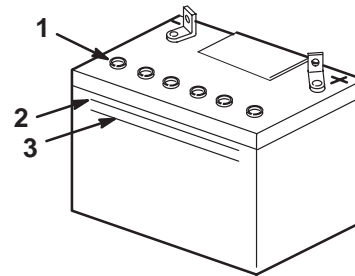

Figure 26
2. Look at the side of the battery. The electrolyte must be up to the Upper line (Fig. 26).
Important Do not allow the electrolyte to fall below the Lower line (Fig. 26).
3. Remove the vent caps from the battery (Fig. 26).
- Slowly pour distilled water into each battery cell until the electrolyte level is up to the Upper line (Fig. 26) on the battery case.
- Wait 5 to 10 minutes after filling the battery cells. Add distilled water, if necessary, until the electrolyte level is up to the Upper line (Fig. 26) on the battery case.